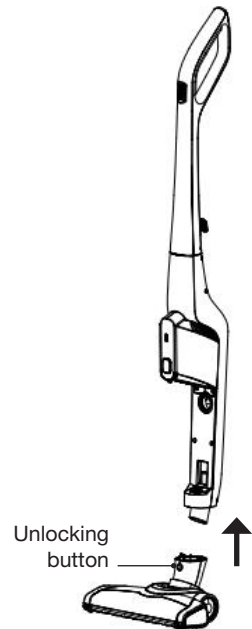

Fig. 14
1. Separate the powered brush from the body of the appliance by pressing the unlock button located on it (Fig. 14).